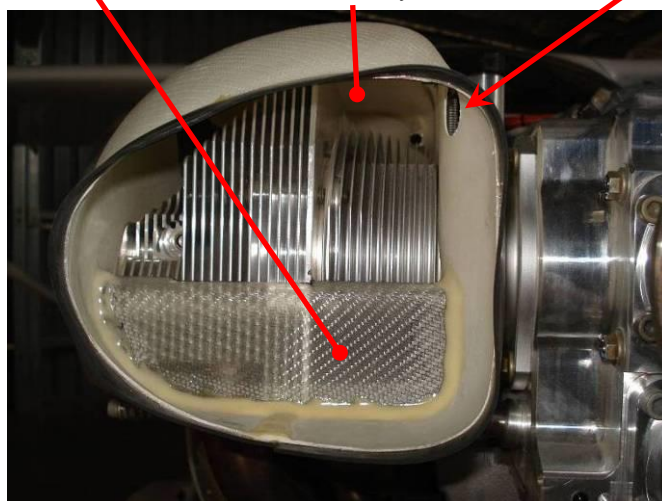

Figure 52. Front-On View Into Ram Air Duct
- Most of the time, air leaking through gaps instead of flowing through a cylinder head, oil cooler or similar is waste air – it does not transfer heat and does not cool the engine. Sometimes air leaking through controlled gaps – such as the holes in the front of the ram air ducts (Figure 52) or the gaps between cylinders – can have beneficial effects. However, it is recommended that gaps around the engine and oil cooler be closed as a starting point.
- The completed baffle is shown in Figure 52.